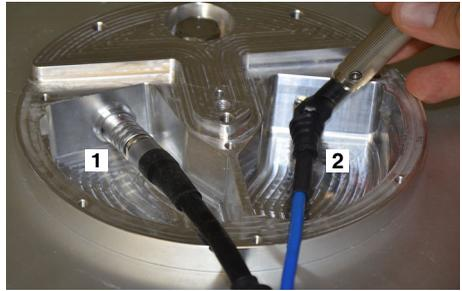

Figure 5: Cable connections
2. Disconnect the cable connections from the ADFA (see Figure 5):
- a. Unscrew the union nut (2) at the SMA connection.
- b. Pull the control cable connector (1) on the ribbed plug head backwards until the lock disengages.
5. Connect the plugs of the RF cable to the ADFA (see Figure 5):
- a. Place the control cable plug of the RF cable on the control connector of the ADFA (1), so that the red marking on the plug points upwards and forms a line with the slot in the control connector. Press the plug with the locking bush into the connection until the plug lock is engaged.
- b. Place the SMA connector plug of the RF cable on the connector of the ADFA (2). Carefully tighten this SMA connection with a torque wrench (maximum torque ≤ 0.6 Nm).